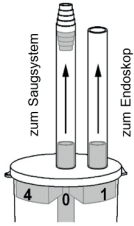

Abb. 1
1. Connect the hose from the middle connection of the trap to the suction system (Fig. 1).
2. Connect the outer connector to the endoscope (Fig. 1).